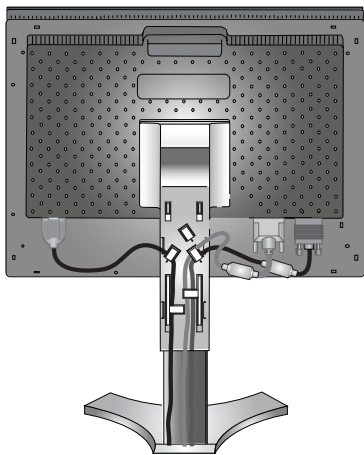

Figure C.2
Place the power cable into the specific hooks as indicated (**Figure C.2**).
Place the DVI cable and the 15-pin mini D-Sub signal cable into the hooks as indicated (**Figure C.2**).
6. Make sure all cables are resting flat against the stand (**Figure C.2**).